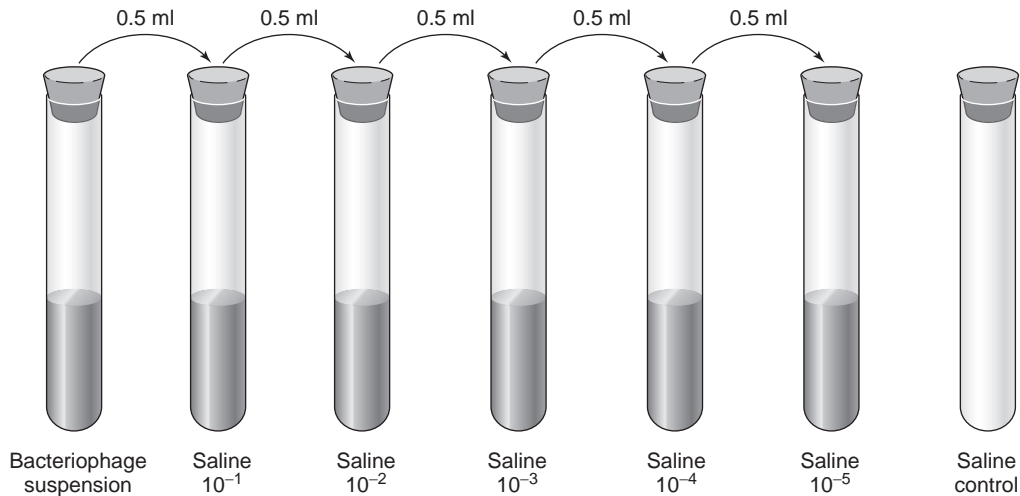

FIG. 8.3. Dilution technique in pour-plate procedure.
7. Using a fresh pipette for each transfer, transfer 0.5 ml of the suspension from the 10^{-2} tube to the 10^{-3} tube, and continue this diluting procedure consecutively for the remaining saline tubes. Don't forget to mix each tube well before and after diluting. You have now made a series of 10-fold dilutions of the original phage suspension (Fig. 8.3).